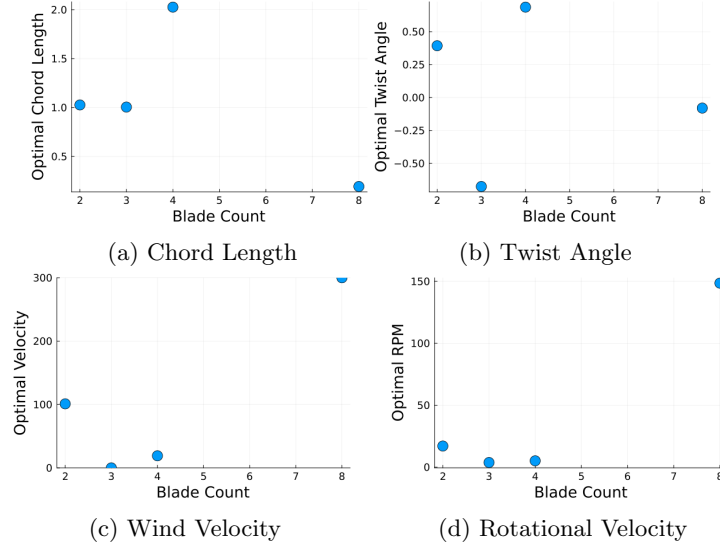

Figure 1: Optimal Blade Parameters Compared With Blade Counts
This investigation found that given certain constraints, different types of rotors are better suited to different environments. The results for each blade count are shown in table 1. This table shows that different blade counts have different optimal parameters. A visual representation of these results is found in figure 1. Several conclusions can be drawn from examining table 1 and figure 1.
*Graphs to accompany these rotors are shown in Figure 1.*